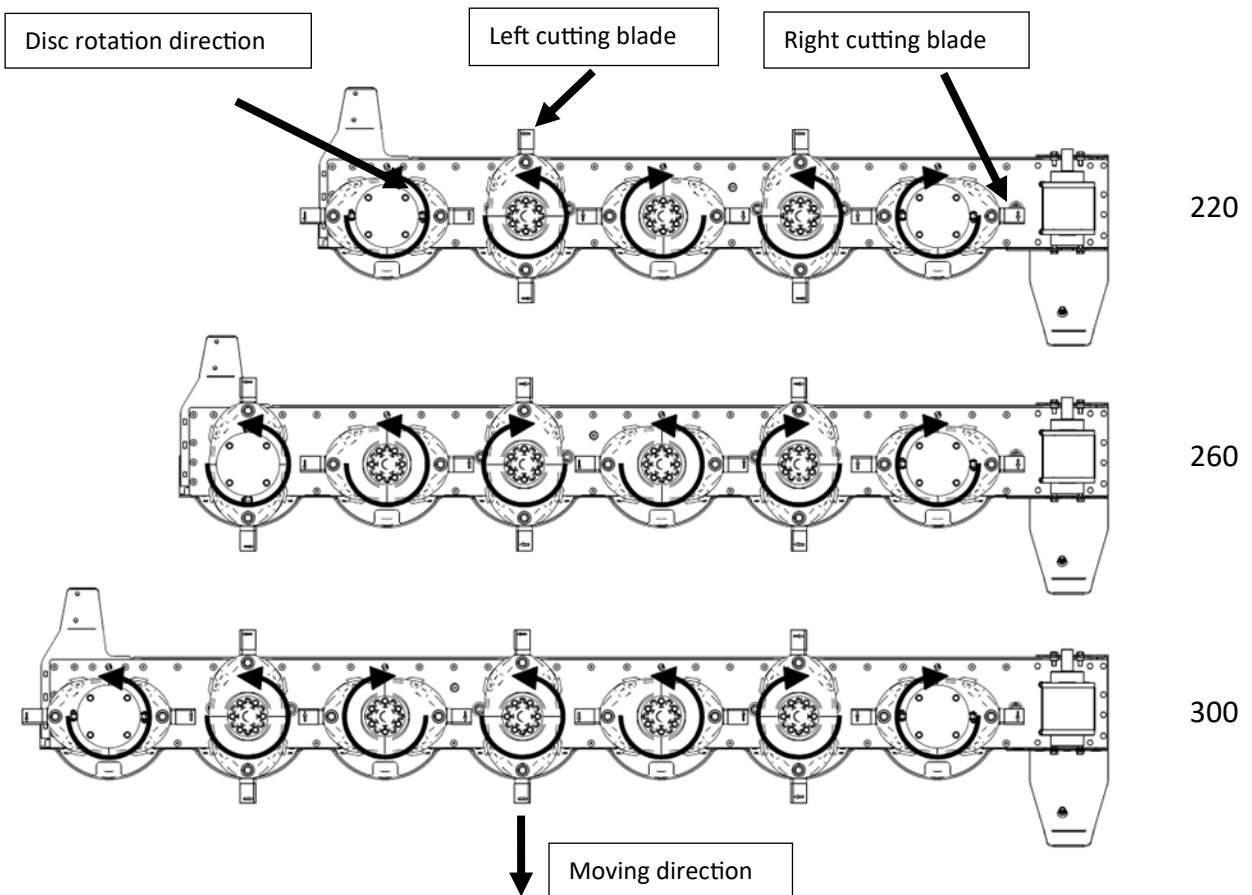

Fig. 20 The layout of the blades depending on the rotations of the discs (view from above)
- a) Loosen the screws (2), and then remove the disk cap, disk, holder and cutters (3)
- b) Unscrew the nut (4) and remove the washer (5) and both upper hubs (6,7),
- d) proceed to reassembly, first connect the two hubs (6,7), using spring pins (1),
- e) put the connected hubs on the bearing unit, install the washer (5) and tighten the nut (4) (tighten the nut with a torque of 320 Nm, in addition, use thread glue),
- g) maintain the correct position / orientation of the disk as before disassembly in accordance with Figure 20.